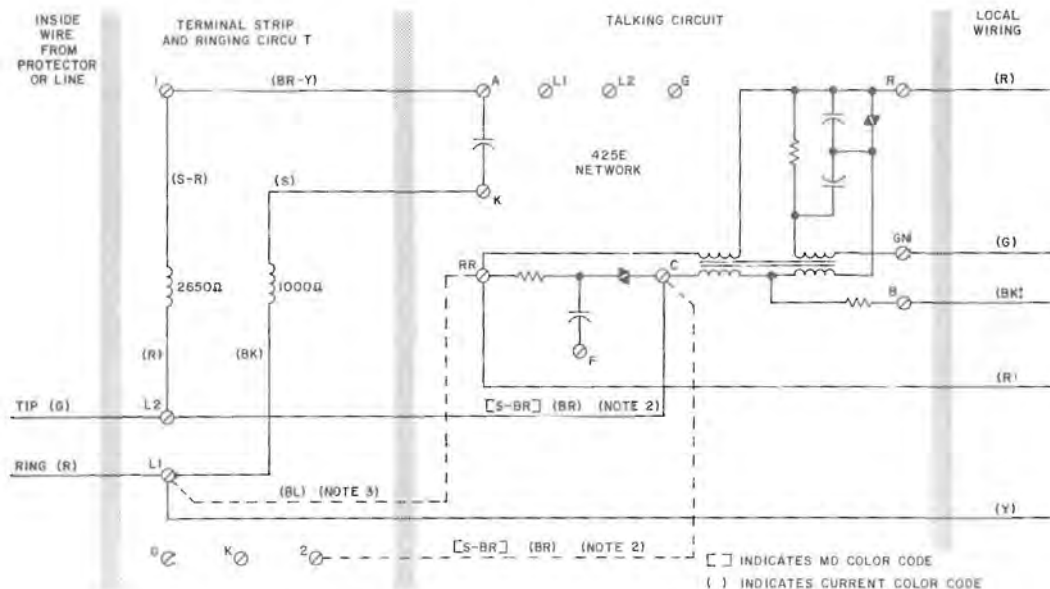

Fig. 3— Circuit Diagram for Connections with Postpay Manual and Rotary Dial Coin Collectors
2.03 See Fig. 3 and Table C for circuit diagram and connections for postpay manual and rotary-dial coin collectors.